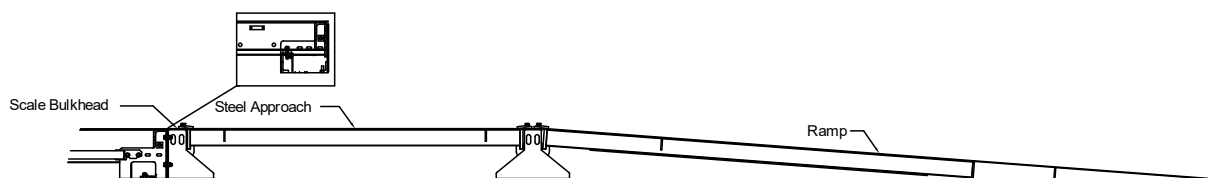

Figure 16
8. The ramps are secured to the pedestal (or bulkhead) using the same brackets as the approaches. Attach to the bulkhead or pedestal with provided brackets/bolts. See *Figure 16*.